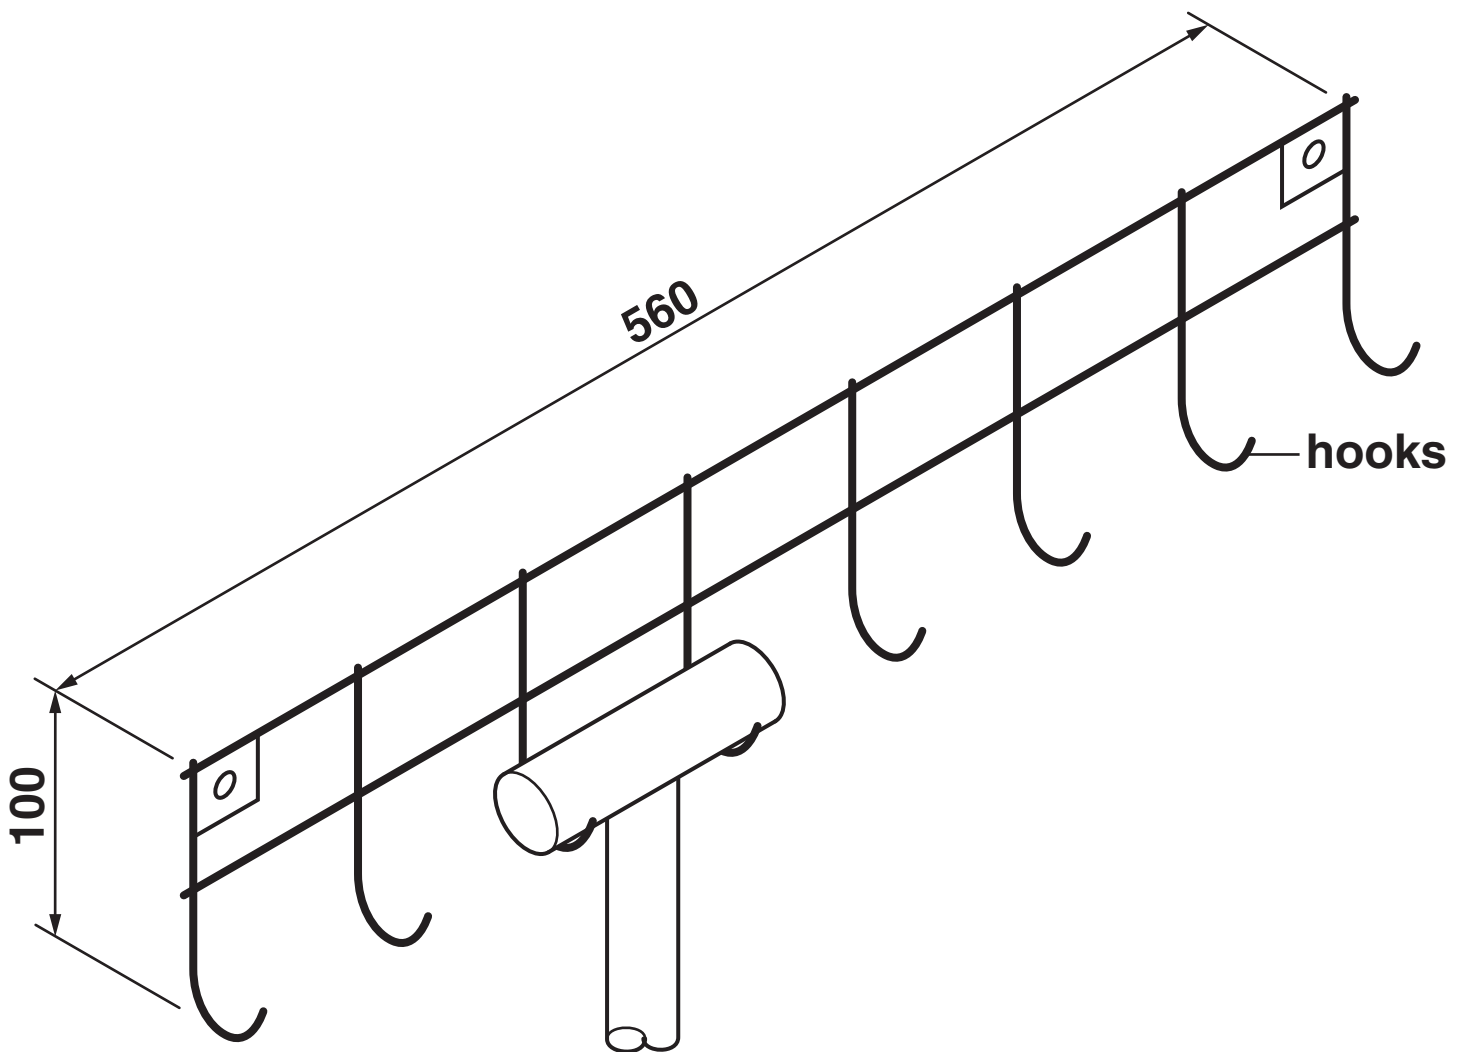

Fig. 2
- 2 Fig. 2 shows a tool rack for garden tools. The rack is made from 6 mm diameter mild steel rod.